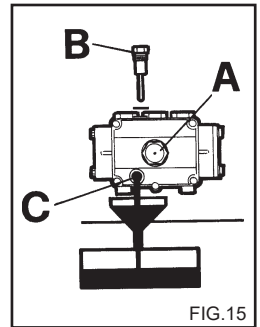

FIG.15
2) Unscrew the cap with the dipstick (fig. 15).